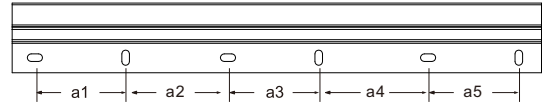

Fig.1
- ① Open the product packaging, and check whether the product has any cosmetic or functional damage; if yes, please return it to the dealer.
- ② After selecting the location of the mirror cabinet, check whether the wall is solid, measure the distance of the holes (a1,a2,a3,a4,a5) in the aluminum alloy bar with a tape measure and mark the wall with a level and pencil (Fig. 1).